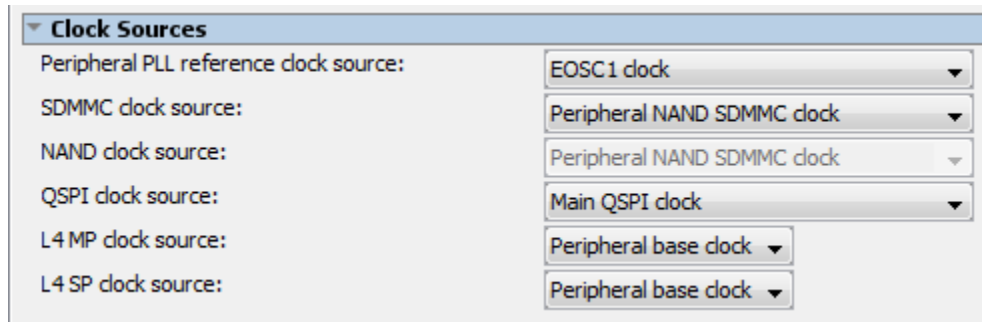

Figure 4.2.3.6
- **Peripheral PLL reference clock source**: This selects the reference clock for the HPS peripherals and can be set to the: EOSC1 Clock, EOSC2 Clock, FPGA-to-HPS peripheral reference clock. EOSC1 & EOSC2 are based upon the frequency at the HPS I/O pins: HPS_CLK1 and HPS_CLK2, D25 and F25 for the Cyclone V SX 5CSXFC6D6F31C6. The FPGA-to-HPS peripheral reference clock is set under the Input tab. Please refer to Figure 4.2.3.7